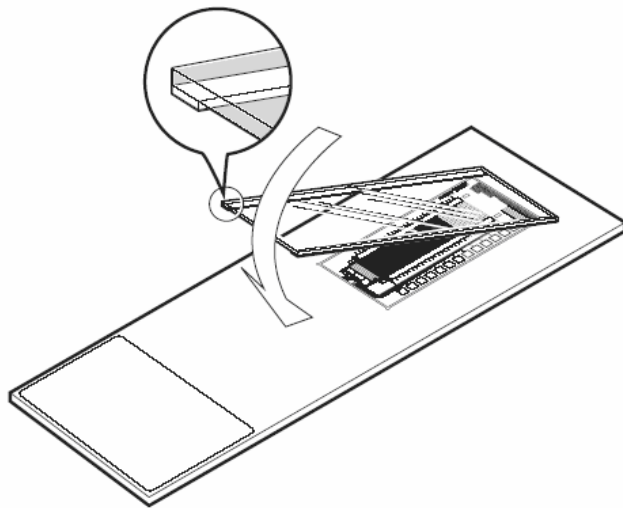

Figure 5. A CombiMatrix microarray with LifterSlip™ coverslip
5. Lay the LifterSlip™ at an angle onto the microarray so that it is centered over the semiconductor area (see Fig. 5). First touch the Imaging Solution with one side of the LifterSlip™, then slowly lower the slip down, taking care not to introduce air bubbles. If bubbles still form, lift one side of the LifterSlip™ with forceps (or a razor blade) to let the bubbles out, and lower it down again.